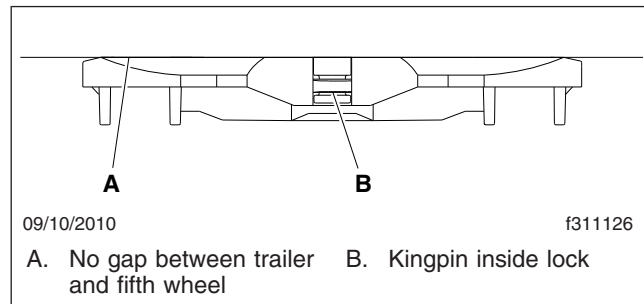

Fig. 17.6, Coupling Inspection
8. Perform a coupling inspection, checking that there is no gap between the bottom of the trailer and the fifth wheel, and that the kingpin is securely locked. See Fig. 17.6.
11. Perform a physical check for positive kingpin lockup, ensuring that there is no gap between the trailer and the fifth wheel. See Fig. 17.6.